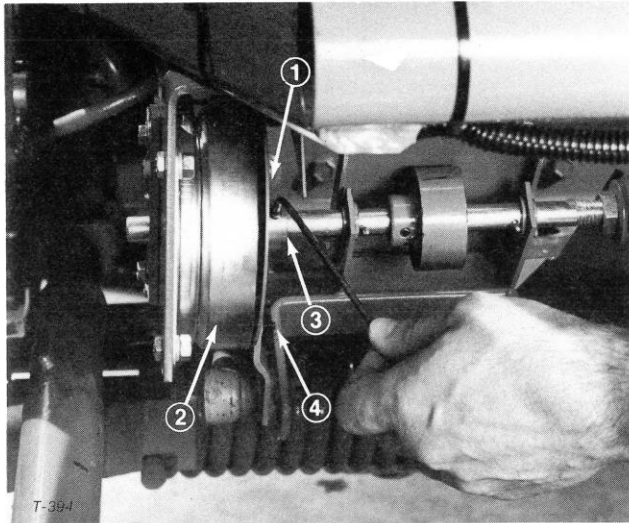

Figure 42
6. Loosen set screw in collar and allow spring tension to move plate and collar away from top of coil (Fig. 42). Allow a minimum amount of movement of plate and tighten set screw. Recheck plate function; refer to steps 1-5.
of clutch plate and turn screw clockwise (Fig. 42). Turn screw approximately one turn, lock jam nut and repeat steps 7-9. Continue procedure until pedal force meets requirements.
11. Operate machine in area similar to normal operating conditions. Actuate cruise control and check traction pedal function. Pedal should stay in a pre-set position under most all conditions except extremely rough terrain conditions. If it does not stay in a pre-set position, even though terrain is fairly smooth, adjust set screw at bottom of clutch plate out (Fig. 42). Tighten jam nut after adjustment. If it does stay in a pre-set position, proceed with normal operations.